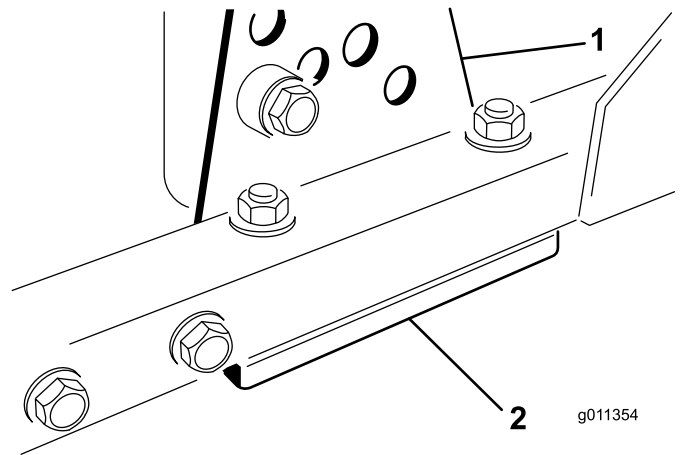

Figure 61
1. Remove the height-of-cut bracket, (front, left, or right) from the deck frame (Figure 61).
2. Adjust 1.5 mm (0.060 inch) shims and/or 0.7 mm (0.030 inch) shim between the deck frame and bracket to achieve the desired height setting (Figure 61).